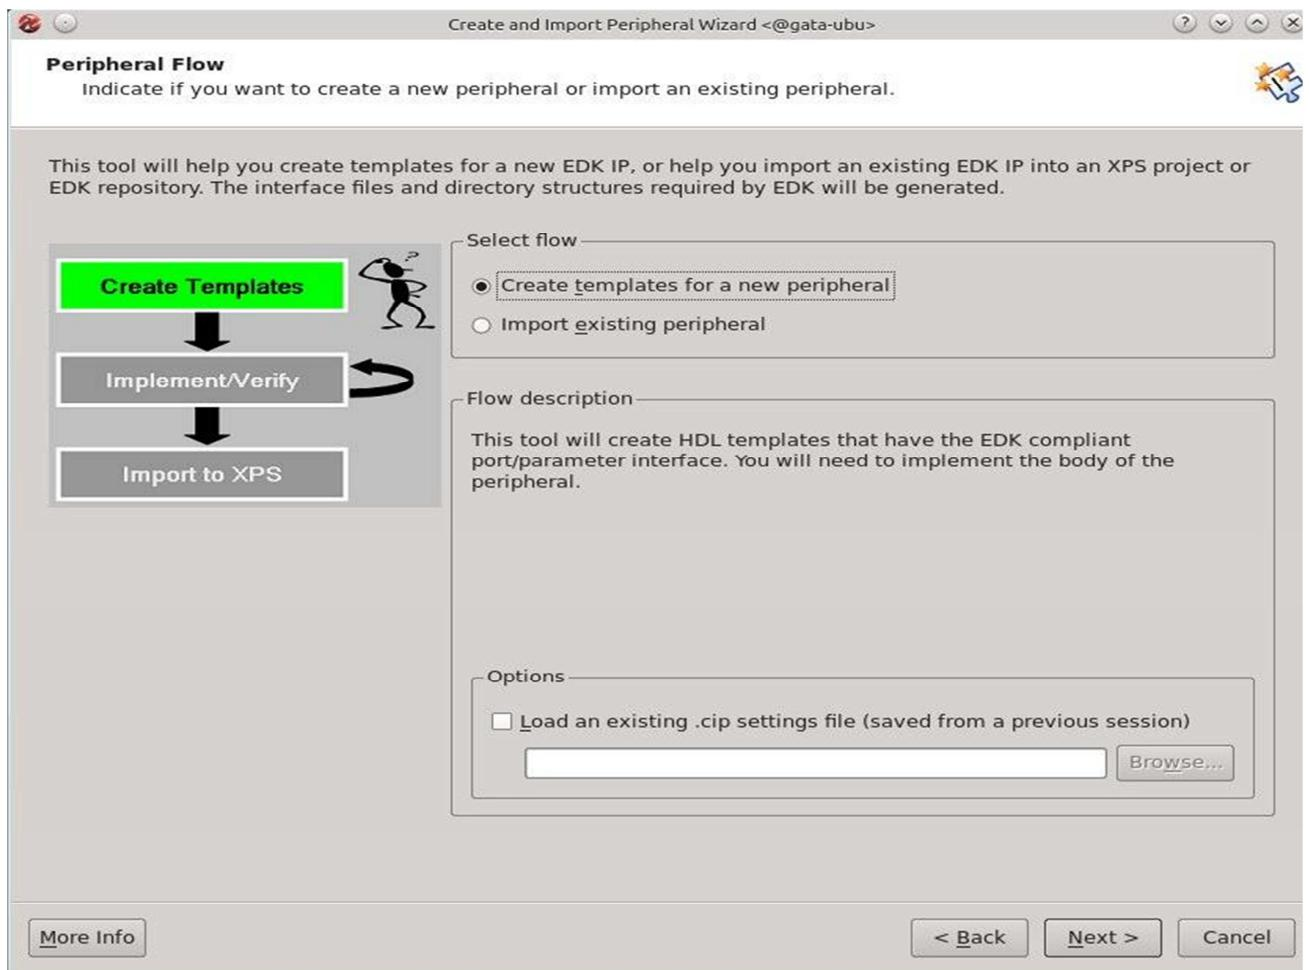

Figure 3: Create and Import Peripheral Wizard (Step 2)
**Step 2:** The second page of the wizard asks if you want to create a new peripheral or import an already created core. Select “Create Template for a new Peripheral” and then press “Next” as shown in **Figure 3**. The wizard will guide you with the necessary steps to build the required files to build and connect your new peripheral (both hardware and software).